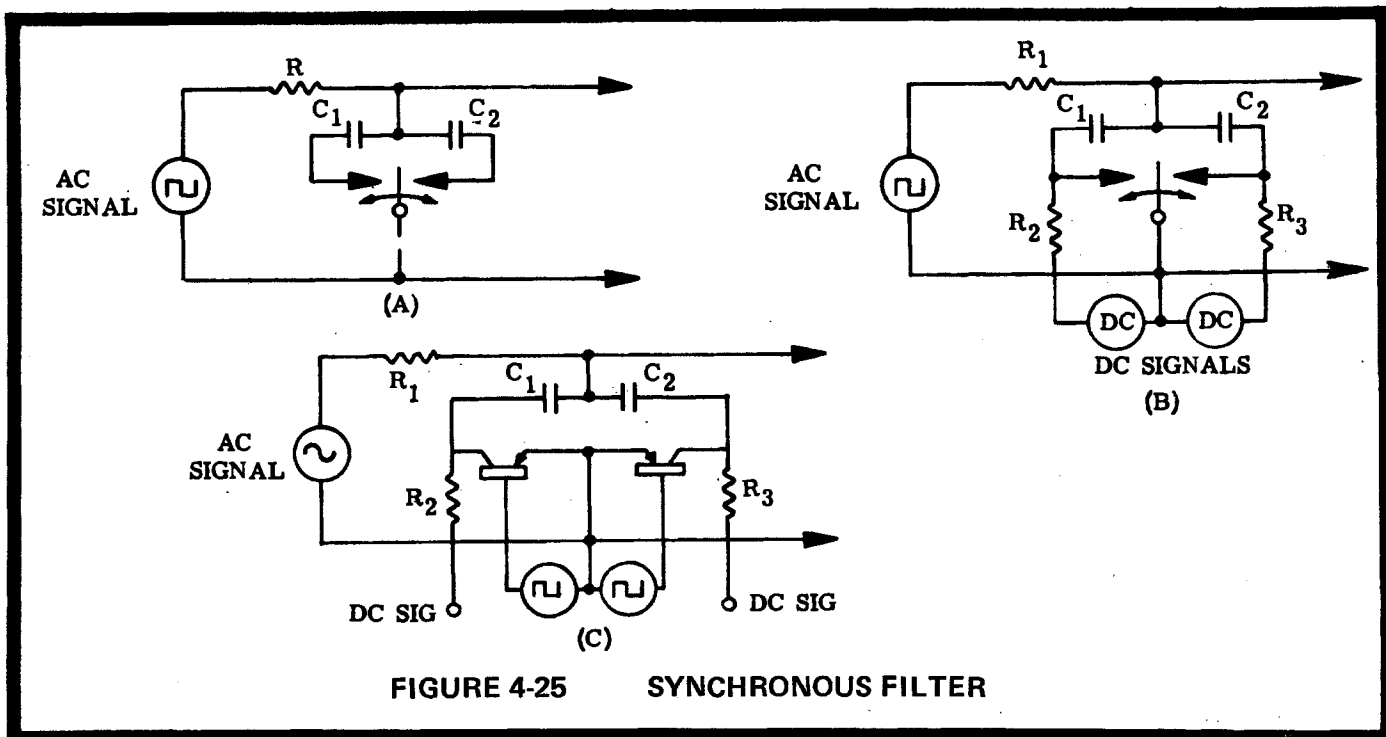

FIGURE 4-25 SYNCHRONOUS FILTER
4.11.1 Basic Synchronous Filter - The simplified filter circuit shown in Fig. 4-25(a) consists of a vibrating switch that operates in synchronism with the AC signal to be filtered. Operation is such that the in or out of phase (0° or 180°) component of this signal will be translated into a perfect square wave and all other components of signal or noise, except odd harmonics of the fundamental mentioned above, will be eliminated. Consider the half cycle in which the switch is to the left. During this half cycle the net effect of the signal will be averaged and stored in C1.
In Fig. 4-25(b) it is shown that DC signals may also be applied to two points to the filter so that the filter output is the sum of the AC signal and the two DC signals. Operation of the DC sections is similar to the typical chopper circuit in which a DC signal acting through a "lag element" (R2 or R3) is translated into a square wave of voltage as it is shorted to common during alternate half cycles.
Fig. 4-25(c) shows the transistor equivalent to the synchronous filter in which the mechanical switches are replaced with transistors operating as switches. In this application it should be noted that the transistor acts as an open switch when the base (in the case of a PNP) is more positive than the collector and that it is a closed switch regardless of collector polarity when adequate negative drive is applied to the base. It follows that NPN transistors will also work as switches when polarities are simply reversed.